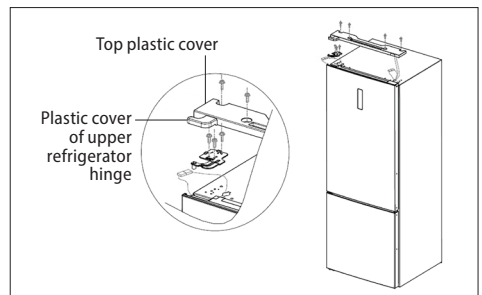

Fig. 8
18. In the package with accessories, you can find the upper hinge of the refrigerator, which is to be installed on the other upper side of the unit as shown in Fig. 8.
19. Connect the connectors and install the top plastic cover (Fig. 8).